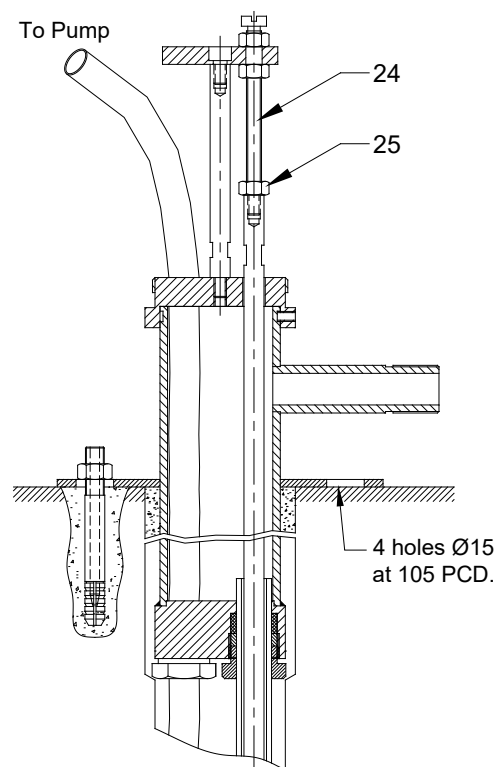

Figure 3.2 – Setting arrangement for 1 point BHE
3.3.9 For any other required range, set distance 'C' accordingly. For example, Assemble cheese head screw (24) and locking nuts (25) as shown in figure 3.2. Slightly loosen hollow bolts (12) related to hole '1'. Adjust end of connecting rod in required position and tighten the lock nuts (25). To set connecting rod ends, refer to table above.